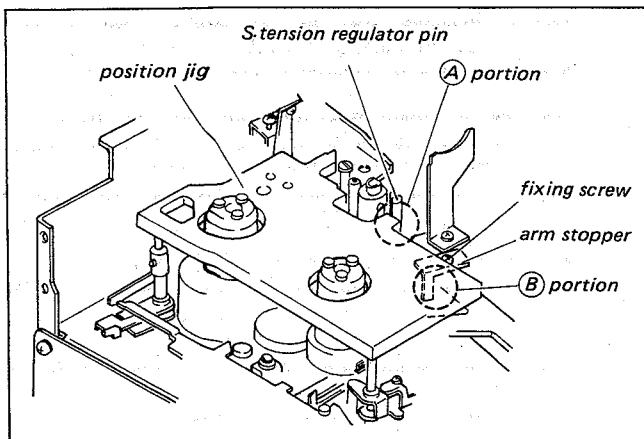

Fig. 4-24. Supply tension regulator stopper position adj. (EJECT mode without tape)
2. Install the Position Jig (Jig Ref. No. J-13) as shown in Fig. 4-24.
4. Check to see that two requirements are simultaneously met at (A) and (B) portions in Fig. 4-24.
5. Loosen the fixing screw of the Arm Stopper referring Fig. 4-24. Adjust the Arm Stopper to meet the two requirements in step 4.